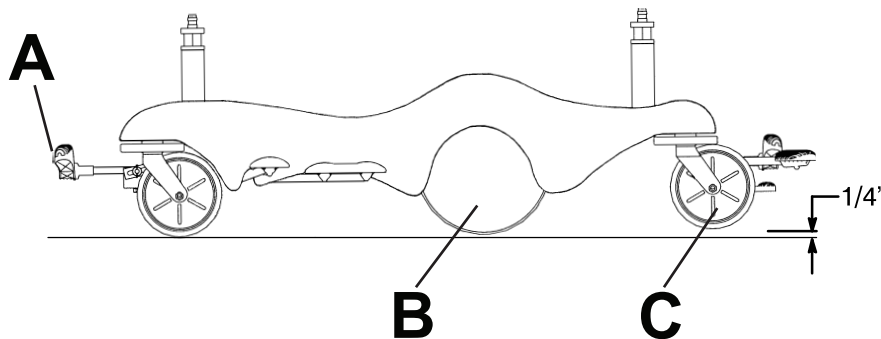

Figure 10 – Transporting with Big Wheel
5. Put the brake/steer pedal (A) in the steer position (Figure 10).
- The **Big Wheel** (B) does not pivot. You cannot move the product sideways when you apply **Big Wheel**.
- When you apply **Big Wheel** (B), the product is raised and the foot end casters (C) are elevated. The product rests on the head end casters and **Big Wheel** makes the product easier to steer (Figure 10).